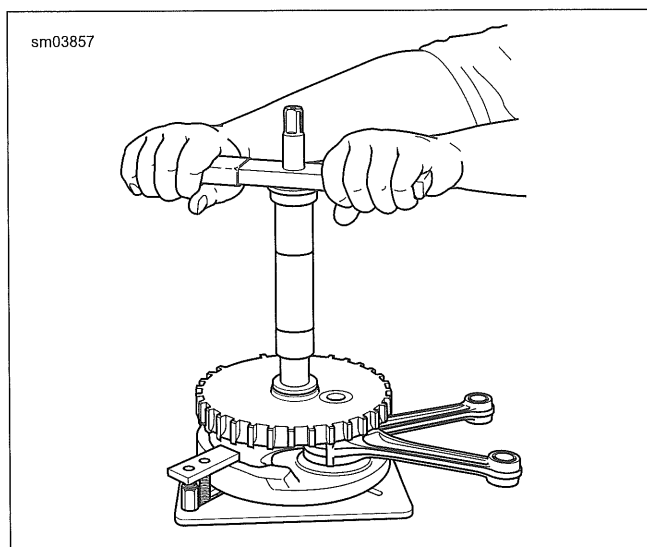

Figure 4-73. Press Inner Race onto Sprocket Shaft: Operation
4. See Figure 4-73. Seat the bearing race using SPROCKET SHAFT BEARING INSTALLER (PART NUMBER: HD-97225-55C). Follow instructions supplied with tool.